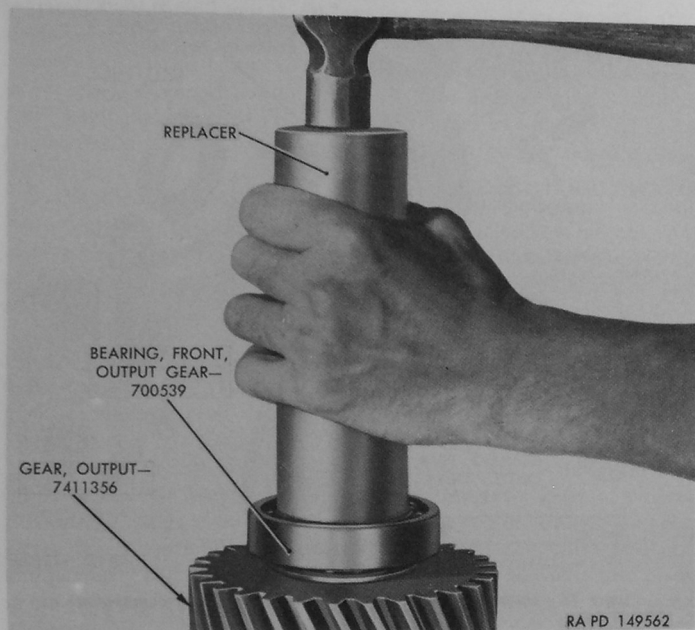

Figure 66. Installing front bearing on output gear with replacer 41-R-2390-415.
a. Set output gear (E) on flat solid support; then use replacer 41-R-2390-415 to drive output gear front bearing (F) into place at shoulder on output gear (fig. 66).
b. Install input shaft rear bearing (D) (except inner race) in recess at front side of output gear. Drive bearing outer race squarely into place. Install locking ring (C) to retain bearing.
*Note.* Inner race of input shaft rear bearing (D) must be installed on rear end of input shaft (B). Refer to paragraphs 92a and b, and 94b for instructions covering replacement of input shaft rear bearing inner race on input shaft.